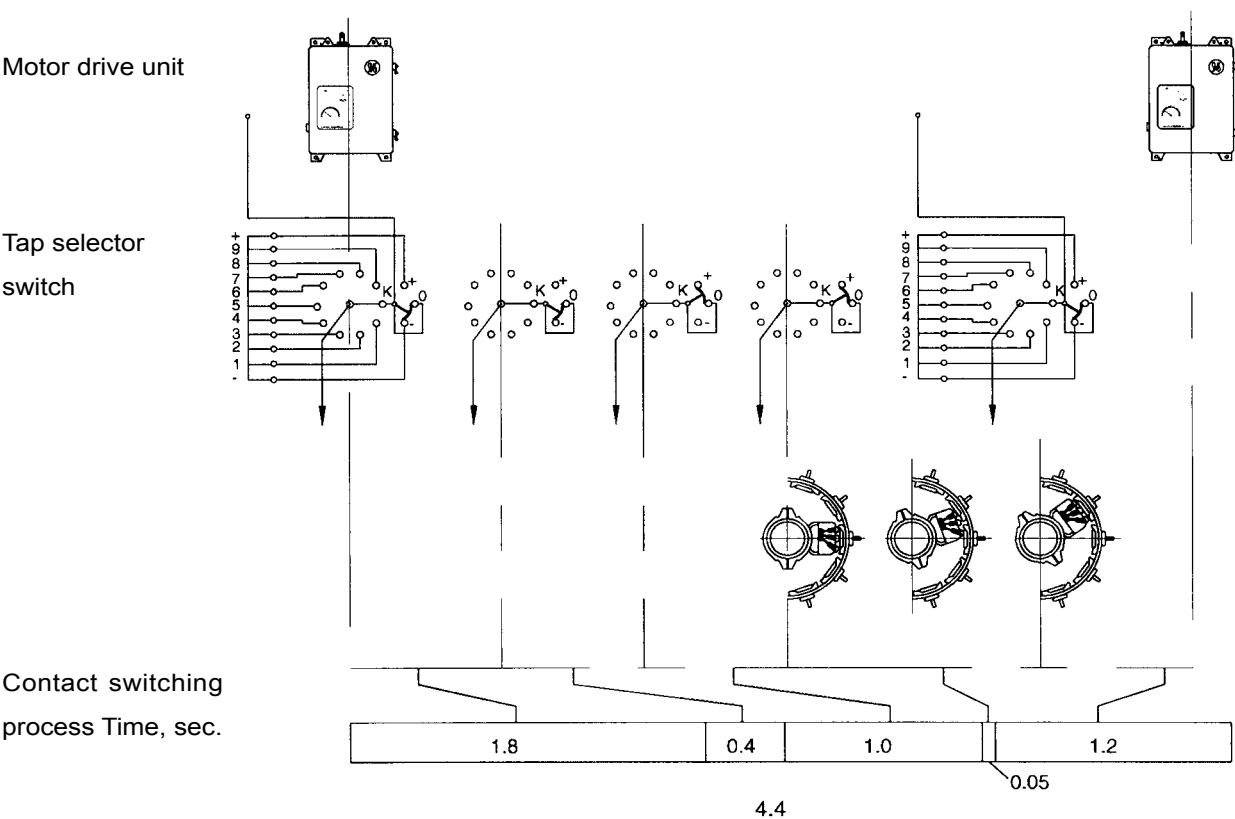

Fig. 6
6.1 Switching operation principle and time (fig.6)